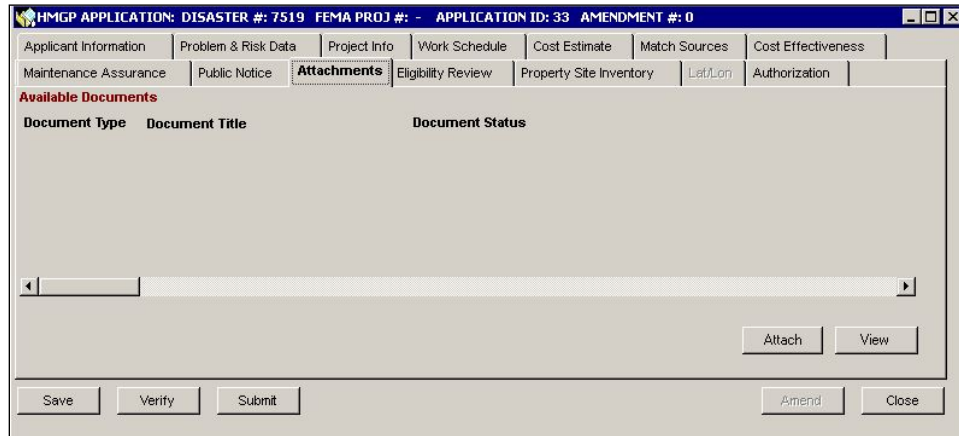

Figure 6-65: Mitigation > Projects > Application Development > Attachments Tab
1. Click the **Attachments** tab (Figure 6-65).